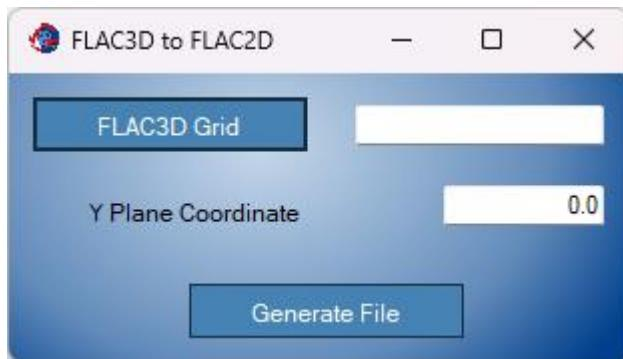

Figure 15: FLAC3D to FLAC2D dialog window.
- **FLAC3D to FLAC2D:** Opens the dialog window shown in Figure 15. This option transforms existing FLAC3D® meshes to FLAC2D meshes. The process is done for a specific Y-plane only. The Y-plane must coincide with the nodes coordinates to the second decimal point.